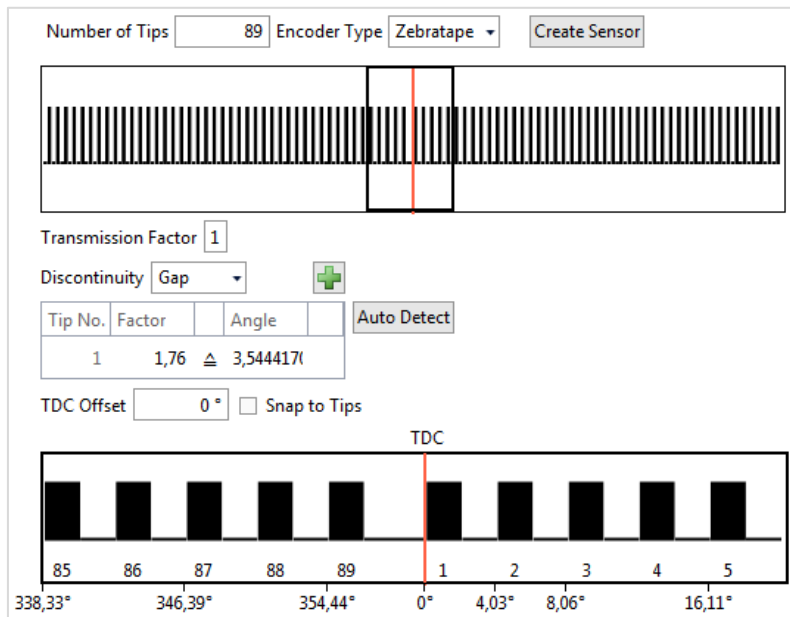

Figure 9: Definition of a sensor with zebratape geometry
- **Zebratape:** In this case, almost all of the markings (teeth) have the same distance, too. However, unlike the **Equidistant** case, there are discontinuities, e.g., where the zebratape overlaps, i.e., the width of a marking or gap is different from that of the other elements. After clicking on **Create Sensor**, you can exactly specify up to four discontinuities (see figure 9).